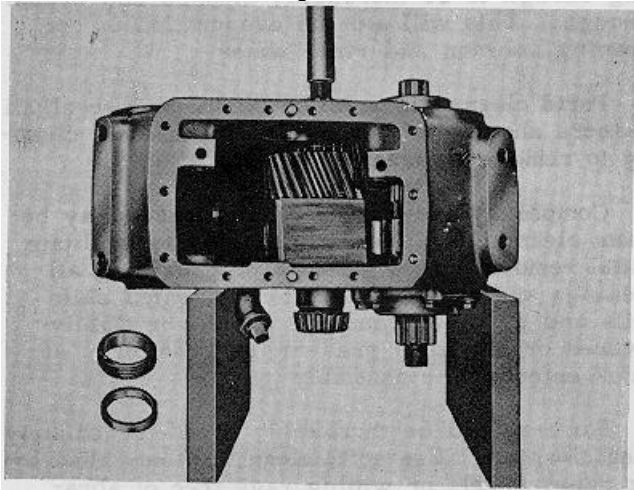

Fig. 16.
27. Block gear with a piece of wood and press rear output shaft and front bearing out of the case as shown (Fig. 16). The gear and rear bearing can be lifted out through cover hole.